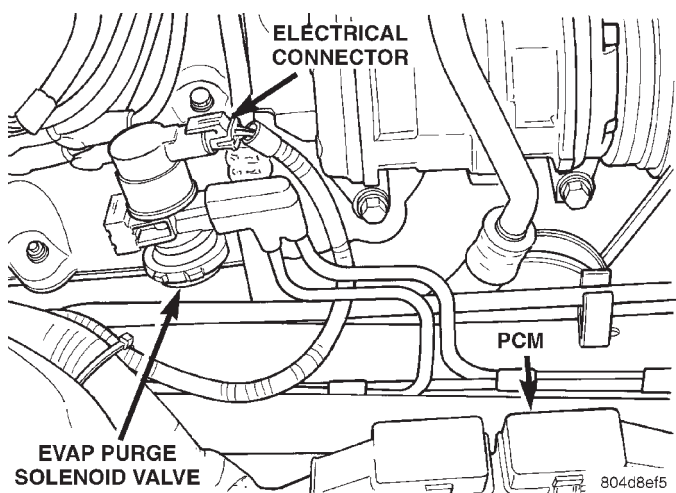
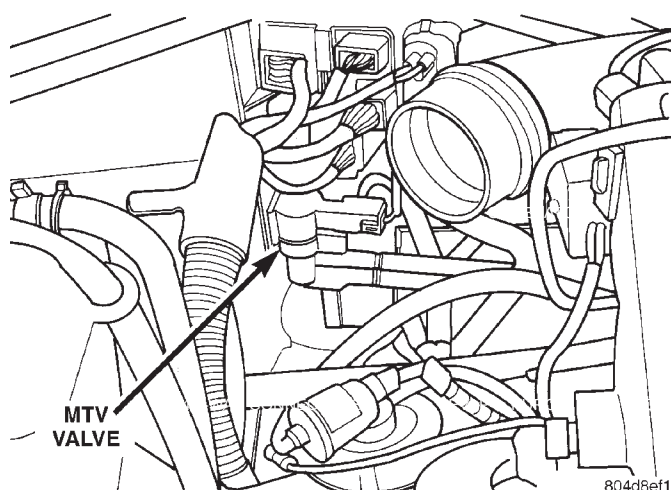

Fig. 46 EVAP Purge Solenoid
Fig. 47 MTV Solenoid
(12) Ensure the EVAP solenoid (Fig. 46) and MTV solenoid (3.5L only) (Fig. 47) electrical connectors are attached to the solenoids .